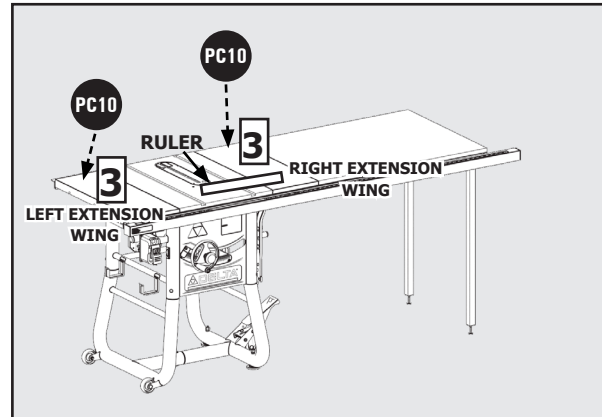

Figure 10
4. Attach the left side extension wing **PC10** [3] to the side of the saw table using three 5/16 18 x 7/8 inch hex head screws with Split Lock Washers **HP7**. See Figure 10.
4. Attach the extension wings **PC10** [3] to the table using three 5/16-18 x 7/8 inch Hex Head Screws with Split Lock Washers **HP7** for each wing. See Figure 10.
**NOTE:** Use a ruler to make sure the top edges of the wings are flush with the top of the tabletop. See Figure 10.